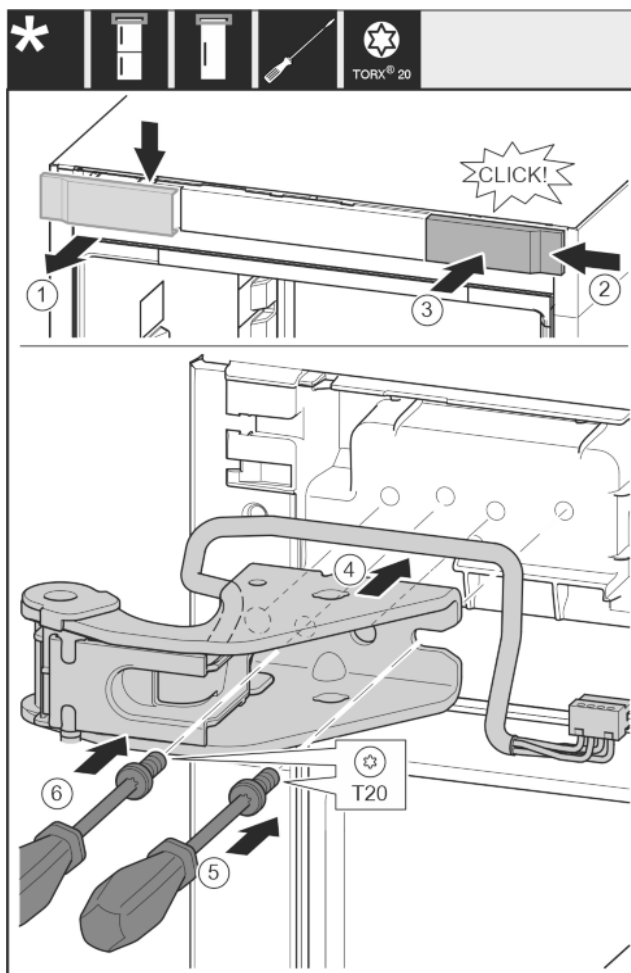

Fig. 25
- Take off the cover from above to the front. Fig. 25 (1)
- Rotate the cover 180° and clip onto the other side from the right. Fig. 25 (2)
- Latch the cover into place. Fig. 25 (3)
- Position the upper bearing bracket. Fig. 25 (4)
- Insert the screw with a T20 screwdriver and tighten it. Fig. 25 (5)
- Insert the screw with a T20 screwdriver and tighten it. Fig. 25 (6)